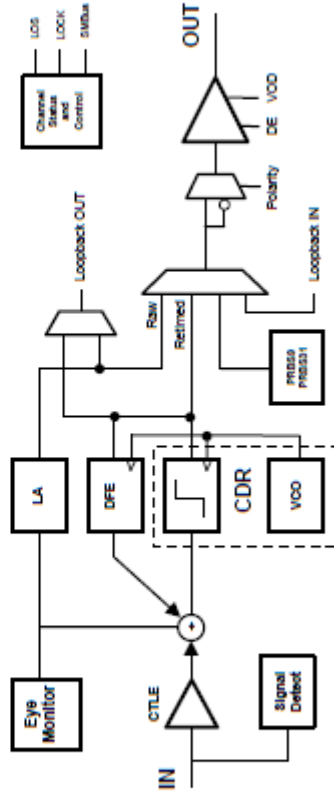

Figure 6. DS110DF111 Data Path Block Diagram
Claim 15 filter coefficient values stored in nonvolatile memories.	7.1 Overview The DS110DF111 is a low-power, multirate, 2-channel retimer. Both channels operate independently. Each channel includes a Continuous Time Linear Equalizer (CTLE) which compensates for the presence of a dispersive transmission channel between the source and the input of the DS110DF111. Each channel includes an independent Voltage-Controlled Oscillator (VCO) and Phase-Locked Loop (PLL) which produce a clean clock. The clean clock produced by the VCO and the PLL is phase-locked to the incoming data clock, but the high-frequency jitter on the incoming data is attenuated by the PLL, producing a clean clock with substantially reduced jitter. This clean clock is used to retime the incoming data, removing high-frequency jitter from the data stream and producing a data output signal with reduced jitter. This provides the Clock and Data Recovery (CDR) function of the retimer. Each channel of the DS110DF111 features an output driver with settable differential output voltage and settable output de-emphasis. The output de-emphasis compensates for dispersion in the transmission channel at the output of the DS110DF111. 7.2 Functional Block Diagram  The diagram illustrates the functional blocks of the DS110DF111. The input signal (IN) passes through a CTLE (Continuous Time Linear Equalizer) and a signal defect block. The output of the CTLE is fed into a summing junction. The other input to the summing junction is a feedback signal from the CDR (Clock and Data Recovery) block. The output of the summing junction is fed into a DFE (Decision Feedback Equalizer) block. The output of the DFE is fed into a LA (Line Attenuator) block. The output of the LA is fed into an Eye Monitor block. The Eye Monitor block is also connected to a Channel Status and Control block, which provides LOS (Loss of Signal), LOCK, and SIGNAL outputs. The output of the Eye Monitor is fed into a feedback loop that passes through a Raw signal block, a Retimed signal block, and a Loopback IN block. The output of the Retimed signal block is fed into the CDR block. The CDR block is also connected to a VCO (Voltage-Controlled Oscillator) block. The output of the VCO is fed into a Polarity block, which is connected to a DE (De-emphasis) block. The output of the DE block is fed into an OUT block. The OUT block is also connected to a Loopback OUT block, which is connected to the Channel Status and Control block. Figure 6. DS110DF111 Data Path Block Diagram